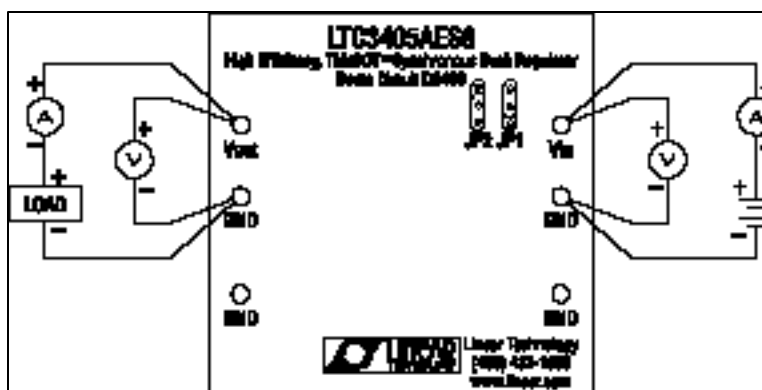

Figure 1. Proper Measurement Equipment Setup
The DC480 demonstration board is easy to set up to evaluate the performance of the LTC3405A. Refer to Figure 1 for proper measurement equipment setup.
2. Connect the load between the V_{OUT} and GND terminals on the *left side* of the board. Refer to figure 1 for the proper measurement equipment setup.